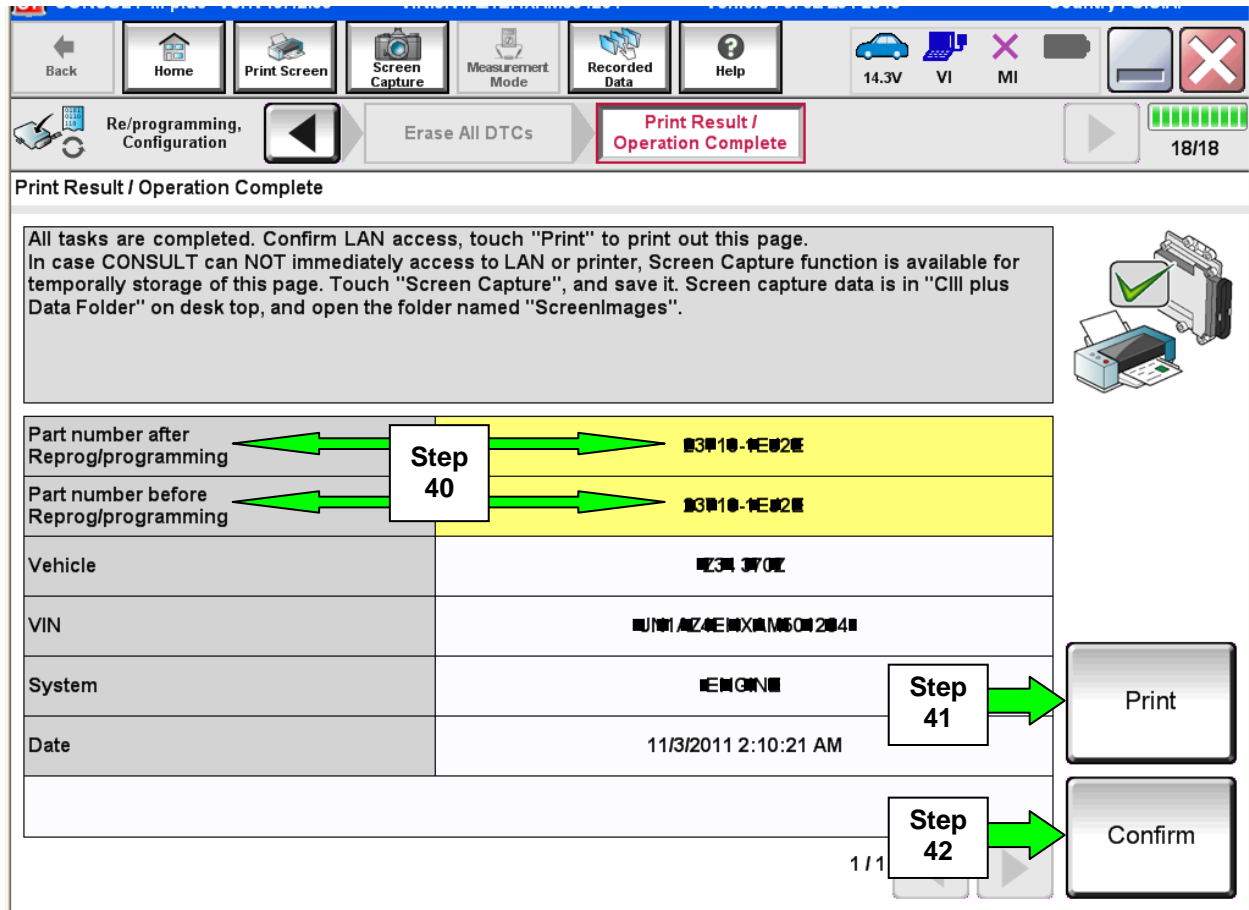

Figure 28
41. Print a copy of this screen (Figure 28) and attach it to the repair order.